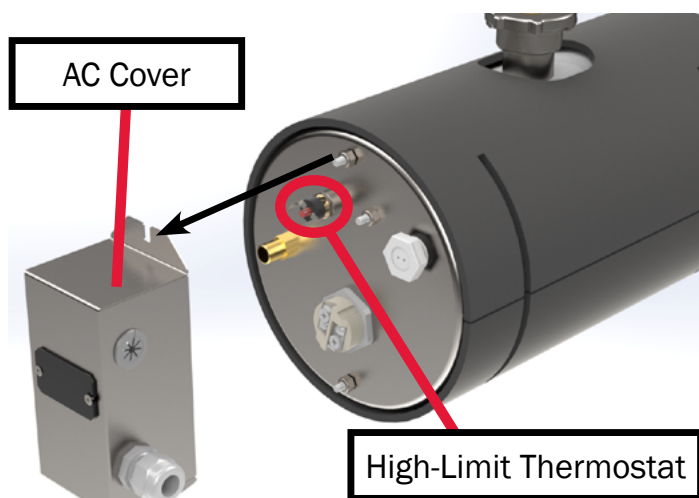

Figure 36
1. Disconnect all sources of AC and DC power from the Aqua-Hot (the AC access cover will need to be removed - see Figure 36).